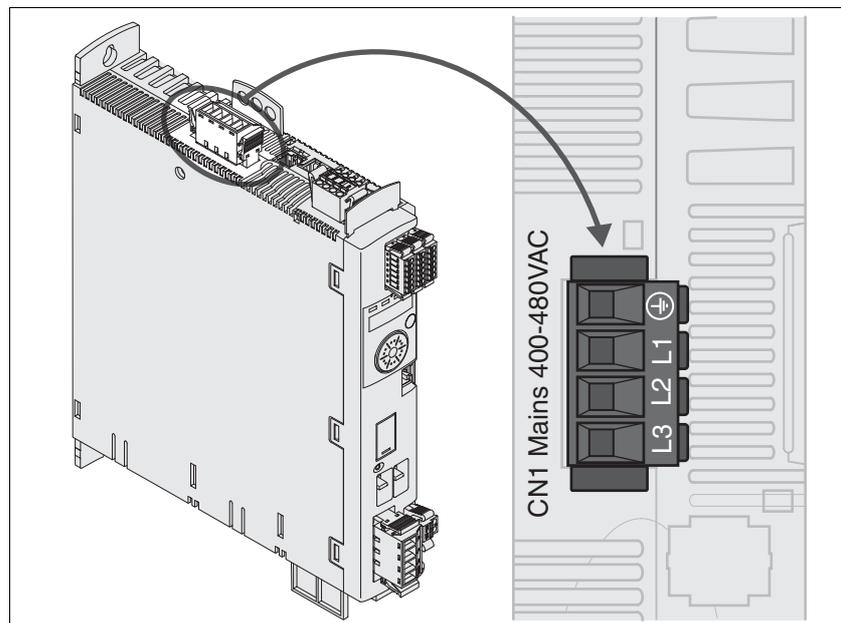

Figure 6.12 Wiring diagram power stage supply voltage for three-phase device
- ▶ Connect the mains cable (Figure 6.12). Note the tightening torque specified for the terminal screws.